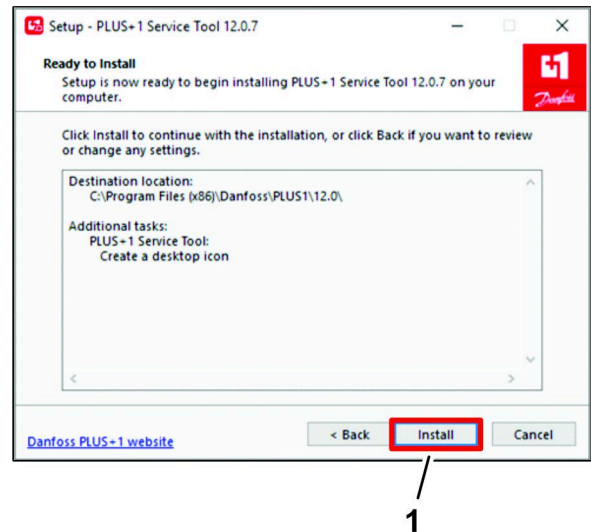

Figure 26
8. In the Ready to Install dialog box, click the INSTALL button (Figure 26).